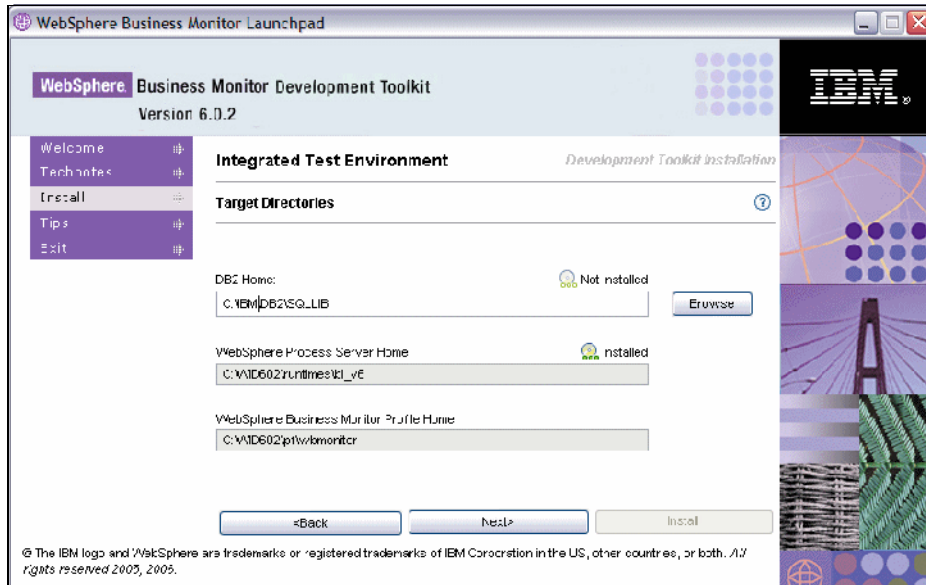

Figure A-12 Monitor Development Toolkit: Integrated test environment target directories
- ▶ In the Integrated Test Environment target directories panel, enter the DB2 home directory (Figure A-12), then click *Next*: